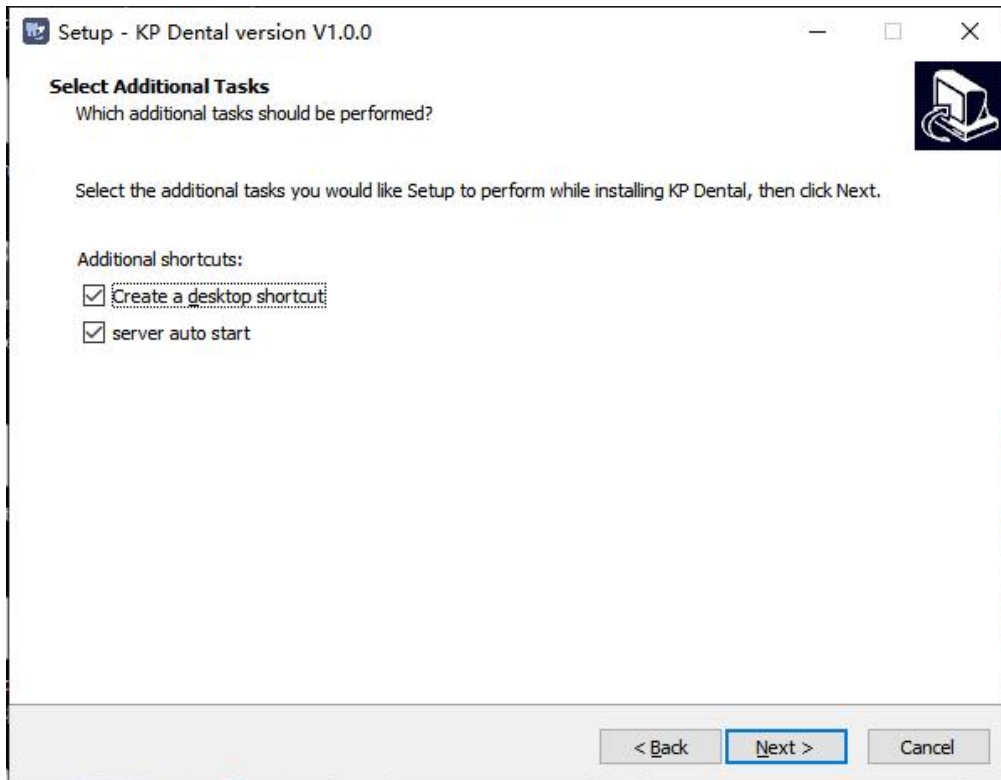

Figure 6
3.1.6 Set whether to create a desktop shortcut and server auto start, click the “Next” button after completion, as shown in Figure 6: